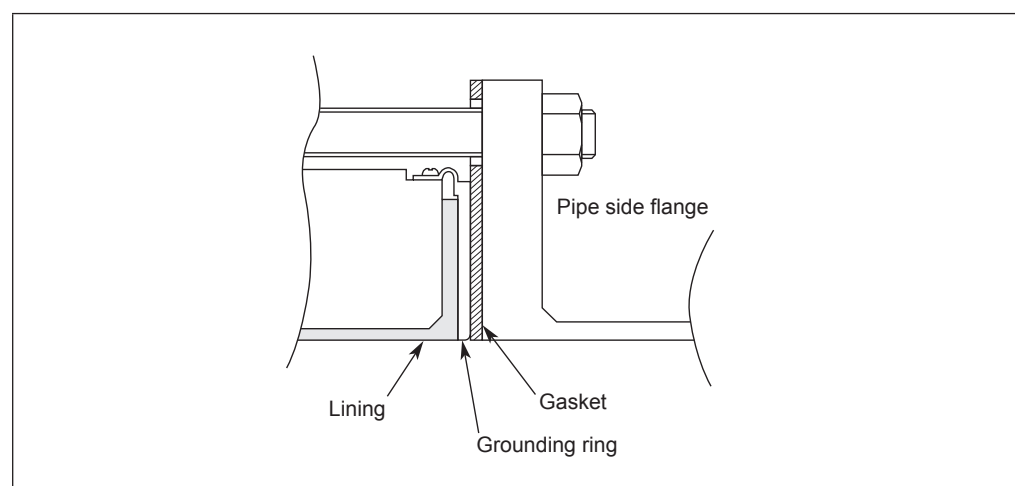

Fig. 2-11. Installation using SUS material grounding ring and metal pipe
- Install the detector as shown in Fig. 2-11. The torque level for tightening the bolts is not related to the gasket material. See Table. 2-1 on page 2-8 for the appropriate torque. For the internal diameter of the gaskets, see Table. 2-2 on page 2-12.